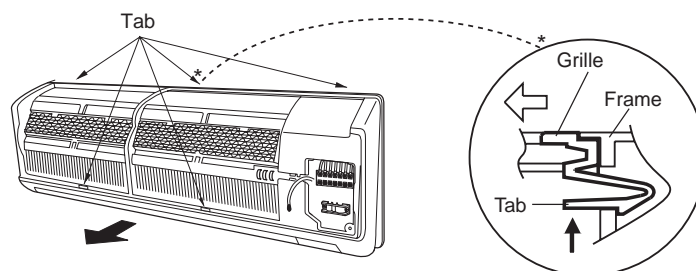

Fig. 11a
- (5) Pull the lower part of the grille toward you to remove. (Fig. 11a)